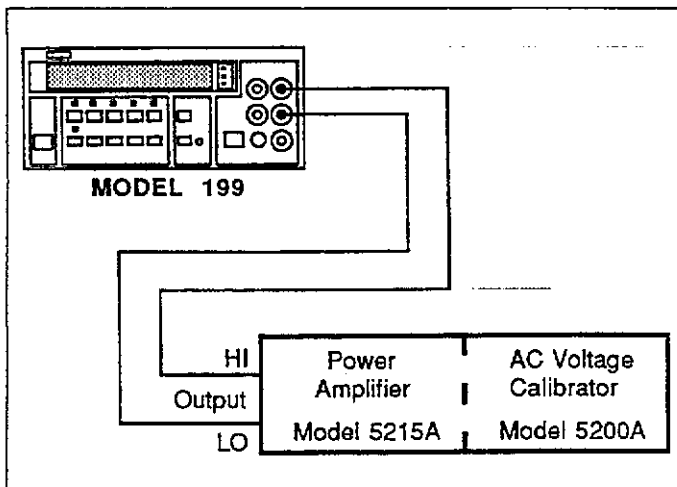

Figure 4-2. Connections for TRMS AC Volts Verification
2. Connect the AC calibrator to the Model 199 as shown in Figure 4-2.